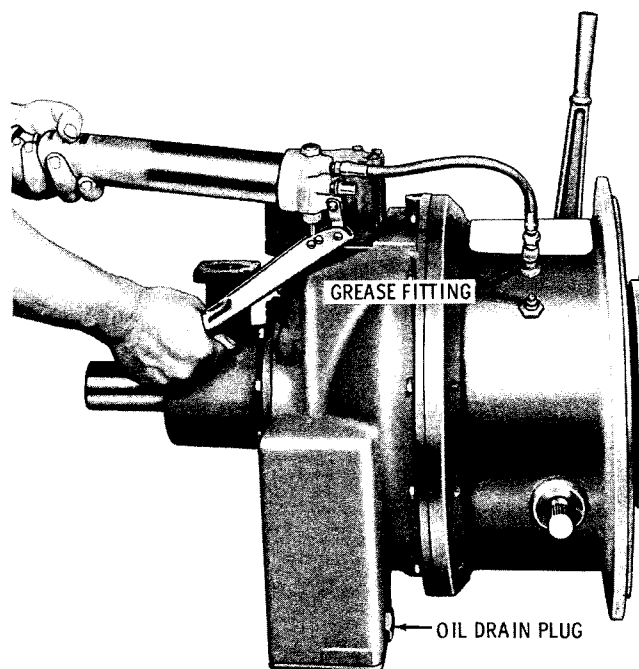

Fig. 3-3. Lubricating input disconnect clutch bearings
a. Lubrication. Using a grease gun and high temperature grease, lubricate the clutch throwout bearing daily. This fitting is the one nearest the right side of the clutch housing (fig. 3-3). Lubricate the shaft bearing about every 60 hours of operation. This fitting is the one nearest the top of the clutch housing. Operating conditions may vary this time interval. Two "shots" of grease should be enough.